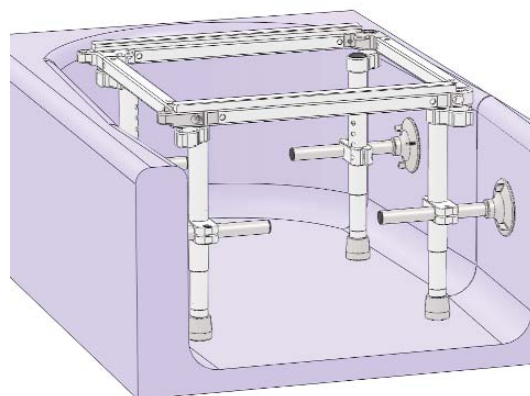

Figure 22
**F Suction Cup Clamps:** The multiCHAIR 6200 comes standard with (4) suction cup vertical clamps attached to the tub section legs (For added stability). Make adjustments to each of these clamps as needed, so that they are secured against the sides of the tub wall (Refer to Figure 22).